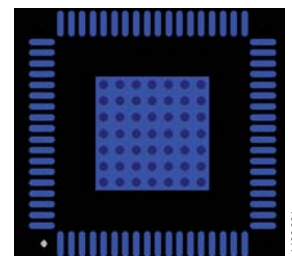

Figure 84. Exposed Pad Layout Example—Top View
- Place vias such that all layers of copper are connected, allowing for efficient heat and energy conductivity. For an example, see Figure 84, which shows 49 vias arranged in a 7 × 7 grid in the pad area.